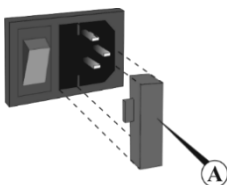

Figure 6. Fuse replacement
9.3 **Fuse replacement (model CH 3-150).** Disconnect from electric circuit. Remove the power plug from the rear side of the unit. Pull out the fuse holder by applying leverage in recess (fig. 6/A). Remove the fuse from the holder. Check and replace with the correct fuse, if necessary, **M 2 A** for 220 V or **M 3.15 A** for 120 V, (type **M** - time lag: **Medium**).